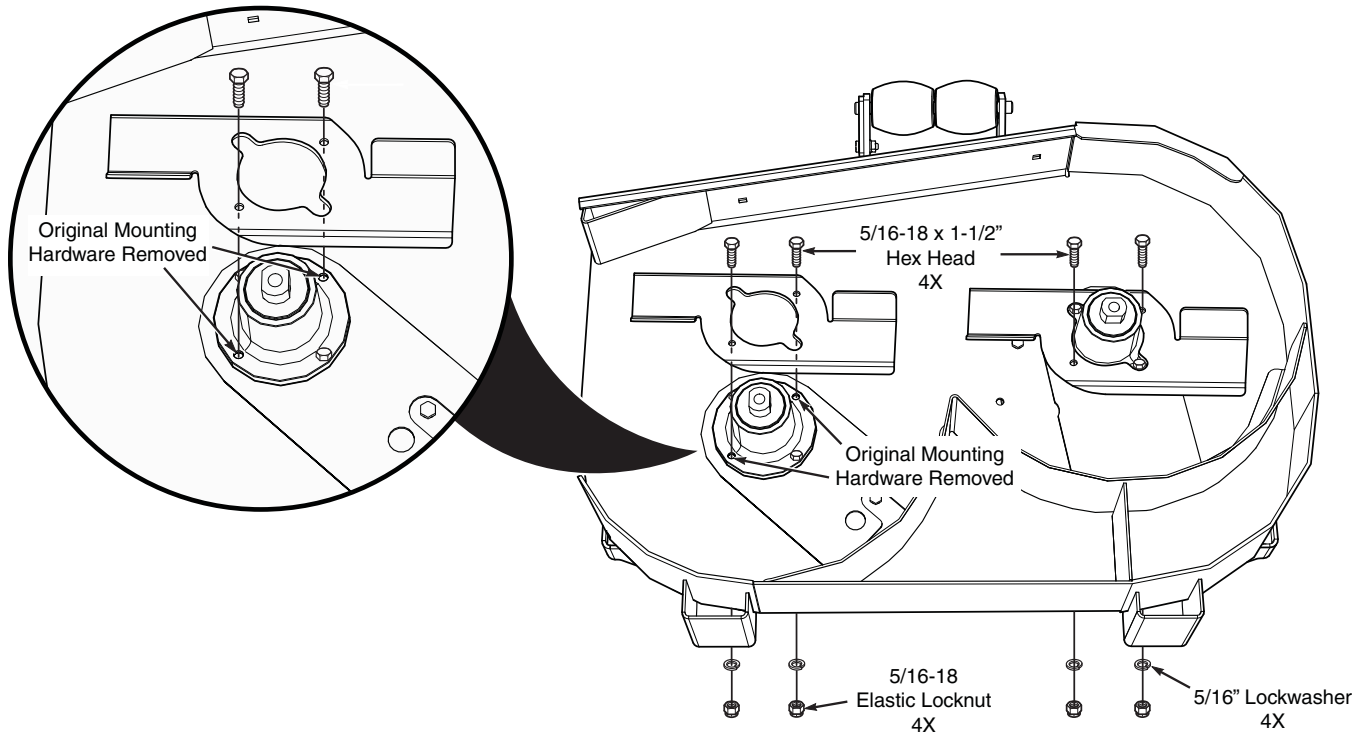

Figure 2. Hurricane Mulch Baffle Installation
- Remove and discard two of the spindle mounting bolts from each of the spindle flanges as indicated in Figure 2. Install the L.H. and R.H. Hurricane Mulch Baffles as shown and secure using four (4) 5/16-18 x 1-1/2" grade 8 hex head bolts, 5/16" lockwashers and 5/16-18 elastic locknuts. See Figure 2.